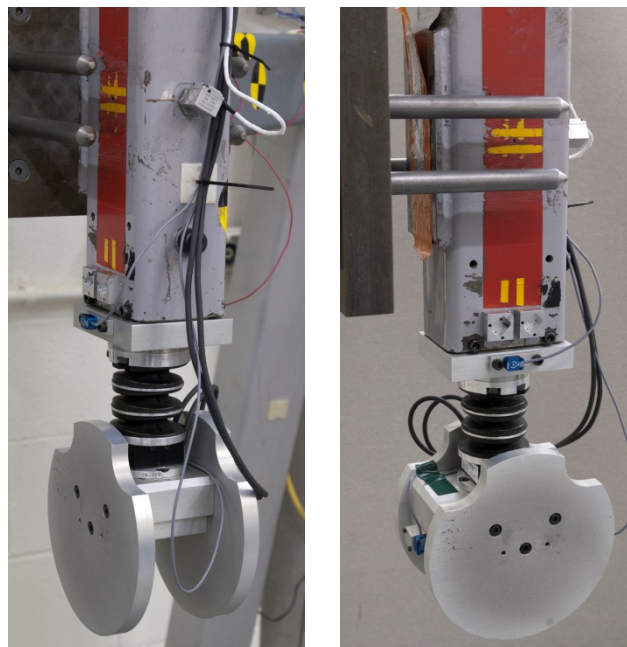

Figure 33. Tape and strain-relieve instrumentation wiring
- Tape and strain-relieve the instrumentation wiring leaving plenty of slack for neck extension (Figure 33).
- In addition, zero all instrumentation channels with the pendulum vertical (Figure 33).